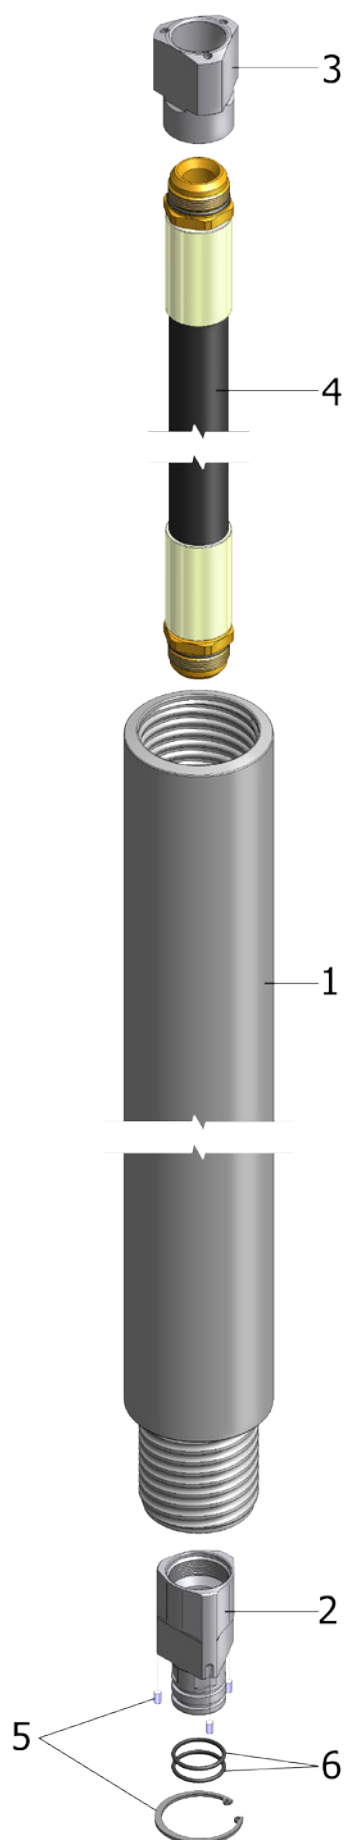

FIG. 3.18
D.114 C2 RP ROD: J-1C2RP100 (L=1000); J-1C2RP200 (L=2000); J-1C2RP300 (L=3000) (REF. FIG. 3.18)